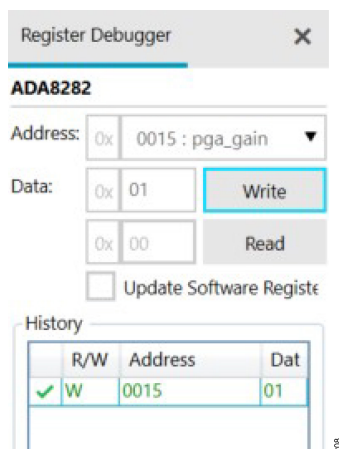

Figure 8. Writing Data to the ADA8282
2. Enter the data to be written to the device in the **Data** text box and click **Write** (see Figure 8).